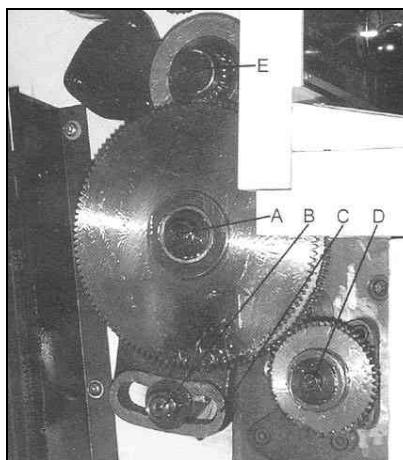

Fig 17
-Loosen nuts (A, B, Fig 17) to disengage the quadrant (C).